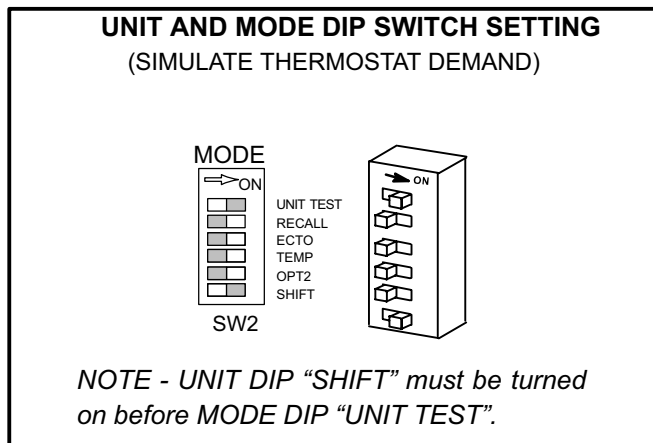

FIGURE 50
- 2-Move the MODE DIP "UNIT TEST" to "ON". See figure 50.